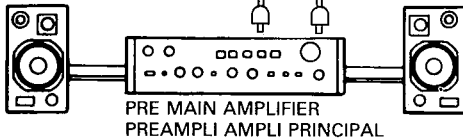

Fig. 1
- Check all the connections by referring to connection diagram (Fig. 1).
- Check that the right (R) and left (L) channels of the speakers are connected to the corresponding right (R) and left (L) plugs, and check that polarities (positive and negative) are correctly matched.
- Check that the right (R) and left (L) pins are correctly inserted to the corresponding jacks.
1. Do not incorrectly connect the loop antenna. If you are not sure how to connect the loop antenna, refer to Fig. 1.